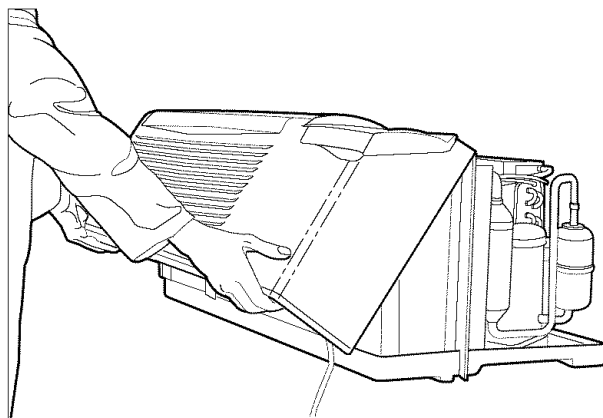

Fig. 2 — Removing Front Panel from Unit
Step 2 — Remove front panel from the unit by grasping the panel firmly near the bottom of both sides and pulling forward, then upward to release magnetic latches and partition hooks. See Fig. 2.